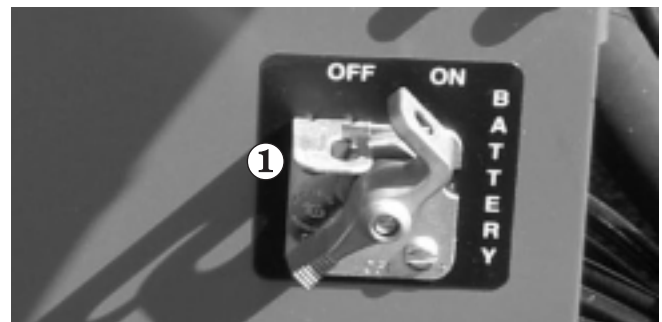

Figure 8.16
1. Set the **Battery** switch **1** to on (see Figure 8.16).